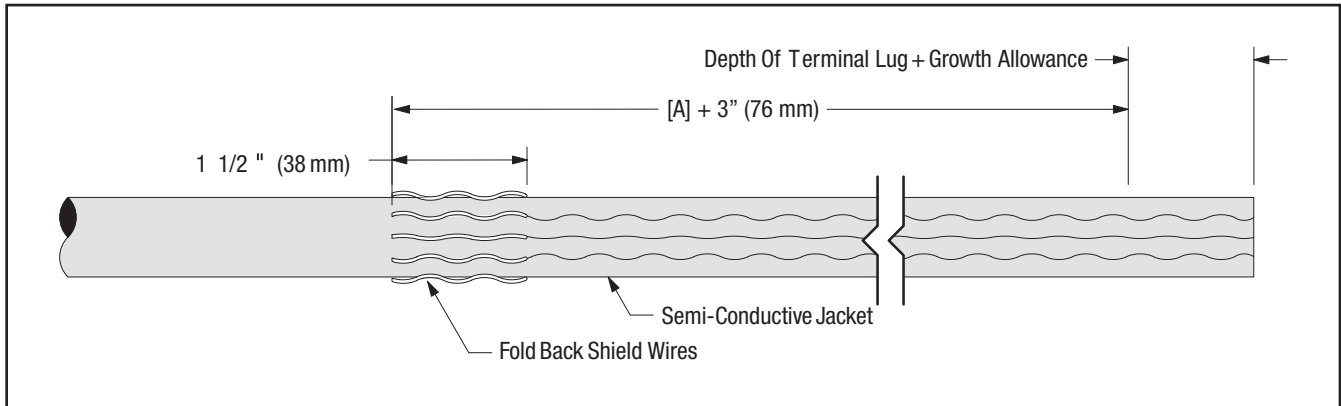

Figure 17
12.4 Remove constant force spring. Carefully bend shield wires back upon cable jacket 1 1/2" (38 mm). Cut excess shield wire and discard (Figure 17).